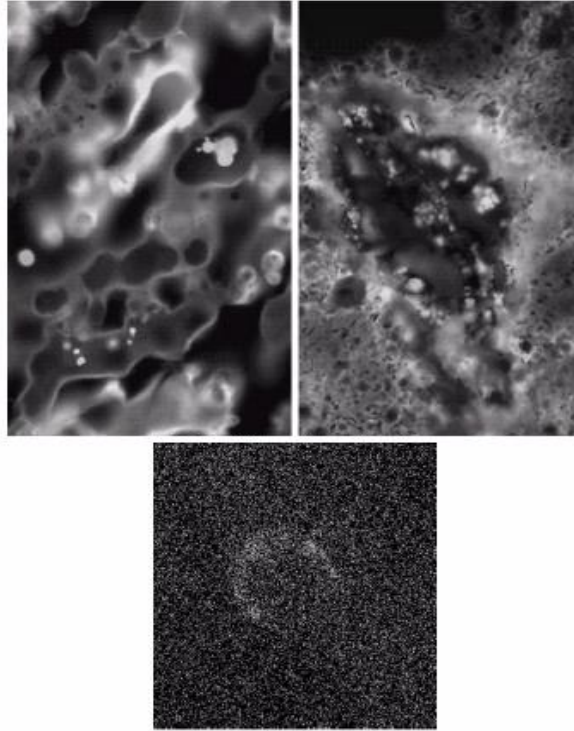

Figure8: Some examples of Ultraviolet imaging
- Used for lithography, industrial inspection, fluorescence microscopy, lasers, biological imaging, and astronomy (Figure8).